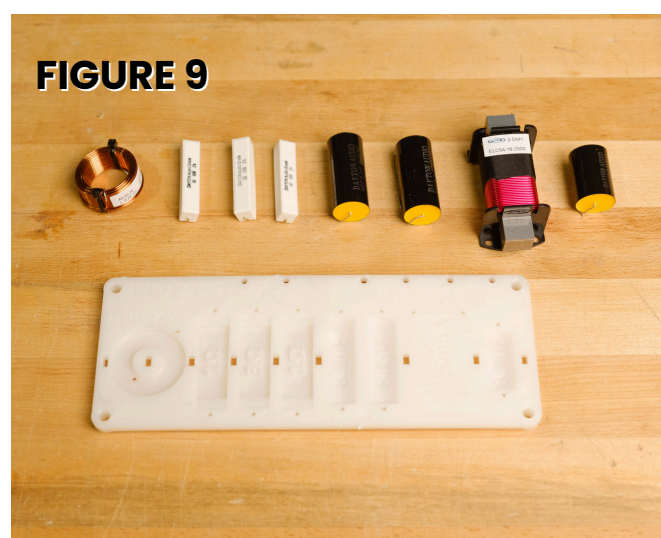

FIGURE 9
1. Verify all crossover components are present (*figure 9*).